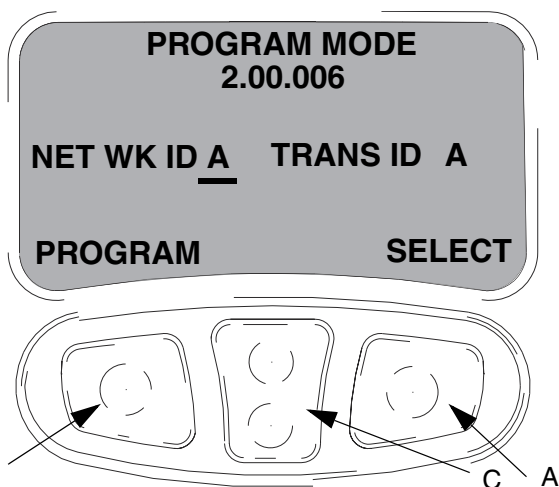

FIG. 4
1. Press the left button (B) under PROGRAM to display the current Transceiver's network and address (NET WK ID A, TRANS ID A). See FIG. 4.
Press the SELECT button (A) to toggle between the Network and Transceiver ID. Use the center up/down buttons (C) to change letter designations. See FIG. 4.
3. Press the PROGRAM button (B) to save settings and return to the Main screen.
The Network ID and Transceiver ID screen also displays the software revision level for the tester. See FIG. 4.